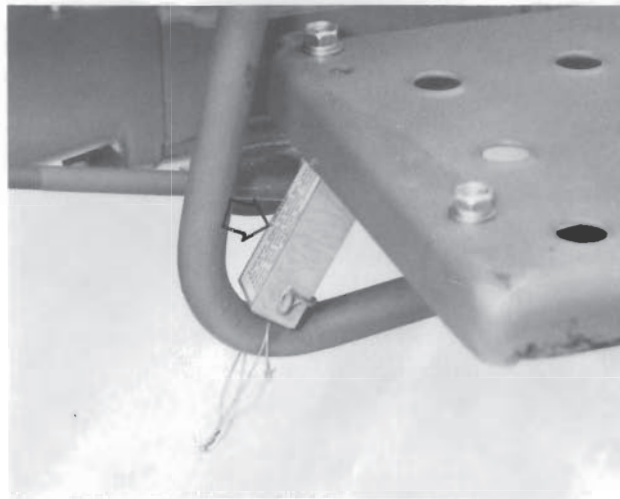

Figure 61 — Installing Pedal Spacer
10. Place the pedal spacer, Figure 61, between the clutch pedal and foot plate to separate the clutch disc from the flywheel.
5. Remove clutch pedal spacer, Figure 61.